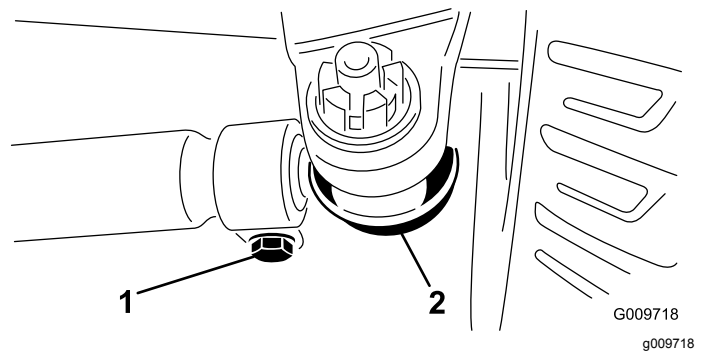

Figure 50
2. To adjust, remove the cotter pin and nut from either tie rod ball joint (Figure 50). Remove tie rod ball joint from axle case support.
3. Loosen the clamps at both ends of the tie rods (Figure 50).
4. Rotate the detached ball joint inward or outward one (1) complete revolution. Tighten clamp at loose end of tie rod.
5. Rotate the entire tie rod assembly the same direction (inward or outward) one (1) complete revolution. Tighten clamp at connected end of tie rod.